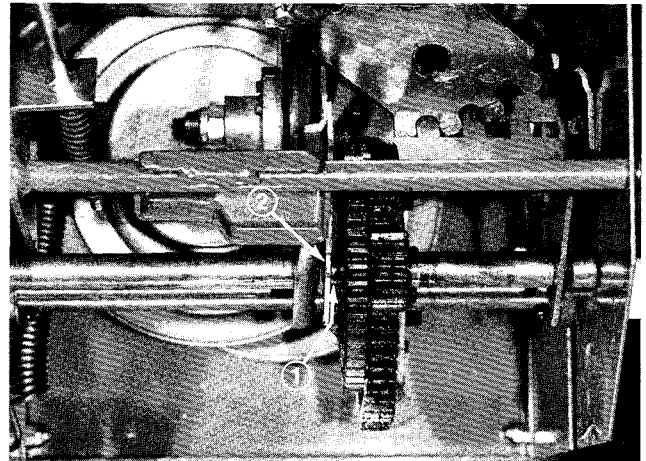

Figure 37
3. Shift speed selector to third gear and push down on speed selector plate to move drive assembly to the right. Drive assembly should contact roll pin; if not, push to the right to make a contact (Fig. 37).